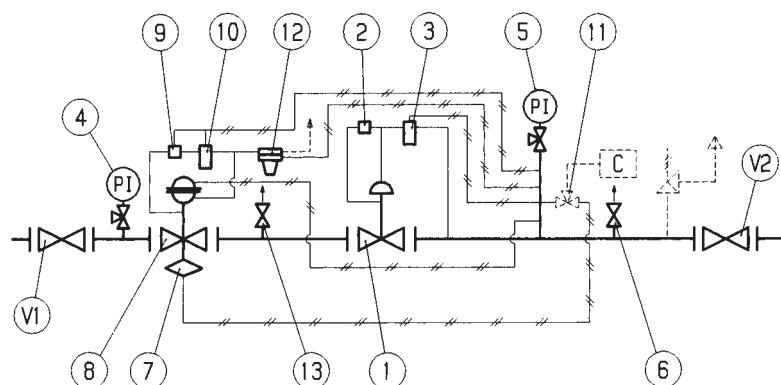

Fig. 27
5.6 MESSA IN SERVIZIO REGOLATORE APERFLUX 851 PIÙ MONITOR IN LINEA REFLUX 819 CON VALVOLA DI BLOCCO INCORPORATA SB/82 E VALVOLA ACCELERATRICE (FIG. 27)
5.6 COMMISSIONING THE REGULATOR APERFULX 851 WITH REFLUX 819 IN-LINE MONITOR WITH INCORP. SB/82 SLAM-SHUT AND ACCELERATING VALVE (FIG. 27)
5.6 INBETRIEBNAHME DES REGLERS MIT IN REIHE GESCHALTETEM APERFLUX 851 MONITORREGLER REFLUX 819 MIT INTEGRIERTEM SAV SB/82 UND SCHLIESSBESCHLEUNIGER (FIG. 27)
5.6 MISE EN SERVICE DU DÉTENDEUR APERFLUX 851 ET MONITOR EN LIGNE REFLUX 819, AVEC VANNE DE SÉCURITÉ INCORPORÉE SB/82 ET VANNE D'ACCÉLÉRATION (FIG. 27)
5.6 PUESTA EN SERVICIO DEL REGULADOR APERFLUX 851 CON MONITOR EN LÍNEA REFLUX 819 VÁLVULA DE SEGURIDAD INCORPORADA SB/82 Y VÁLVULA ACELERADORA (FIG. 27)
5.6 ACTIVACIÓN DO REGULADOR APERFLUX 851 COM MONITOR EM LINHA REFLUX 819 COM VÁLVULA DE BLOQUEO INCORPORADA SB/82 E VÁLVULA ACELERADORA (FIG. 27)